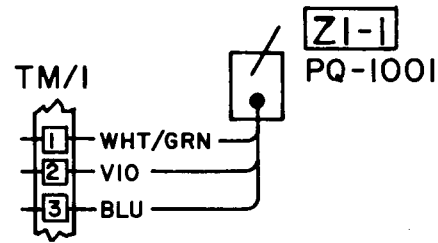

Figure 1: PQ-1001 Damper Position Indicator in Application with the JC/80 BAS Controller
- In an installed digital control system where position feedback is required, use the PQ-1001 with a JC/80 or JC/85 as shown in Figures 1 and 3.